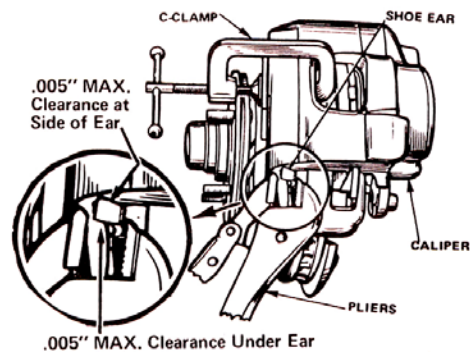

Fig. 7
5. Place caliper on rotor with outer pad resting on rotor. Be sure that flange on the plate is tightly against caliper. Use a metal bar across the caliper cutout, and install a C-Clamp to secure the outer pad and plate to the caliper as shown in Fig. 7. Do not use excessive force as this may deform the lining.